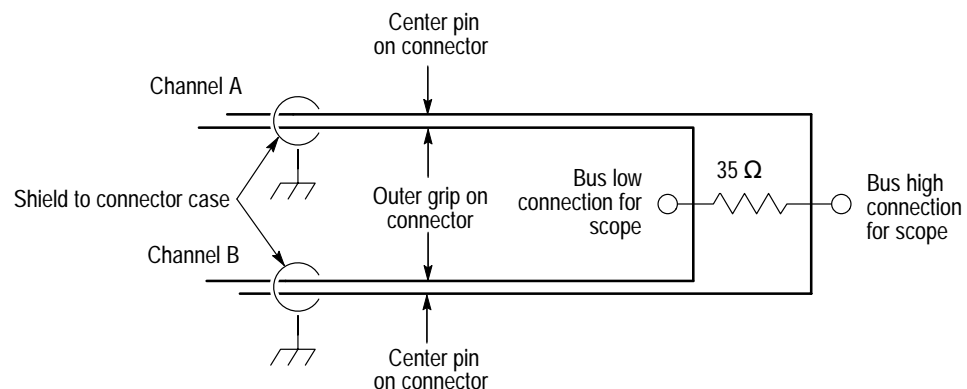

Figure 455-7: Cable Diagram
- A cable to connect the direct coupled output of the 73A-455 from Direct A to Direct B. This cable will need to have a TNC Triax connector on each end and a $35 \pm 0.1\% \Omega$ load across the bus high to bus low connection to simulate a 70Ω 1553 bus load. Allow enough space to connect an oscilloscope probe on both ends of the resistor. Mark which side of the resistor is BUS+ and BUS-. Refer to Figure 455-7.